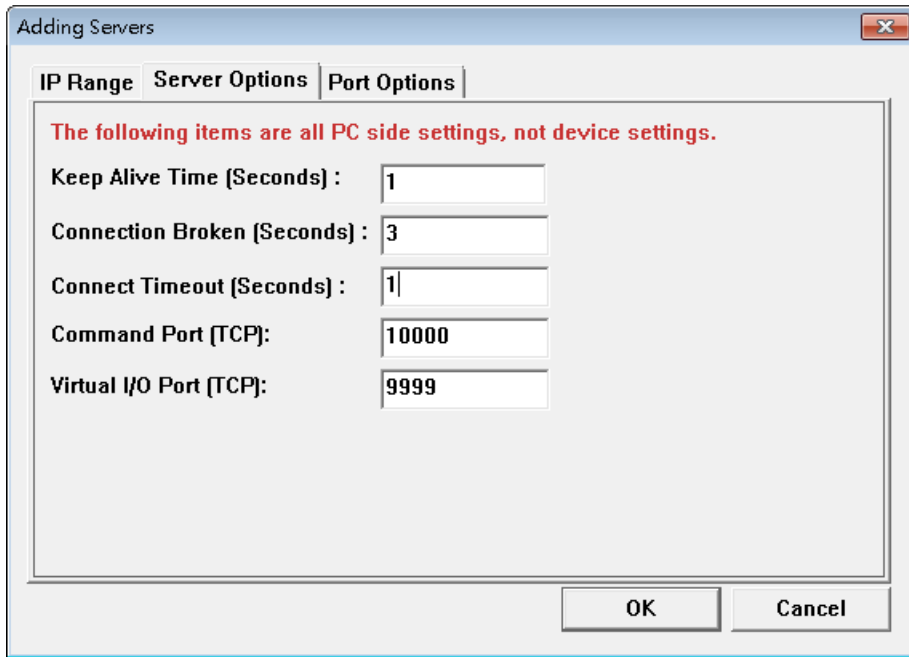

Figure 7.10.16
- H. Then click on the Server Options at the top of the window and follow the screen setting parameters as shown in Figure 7.10.16. After setting, select "OK".